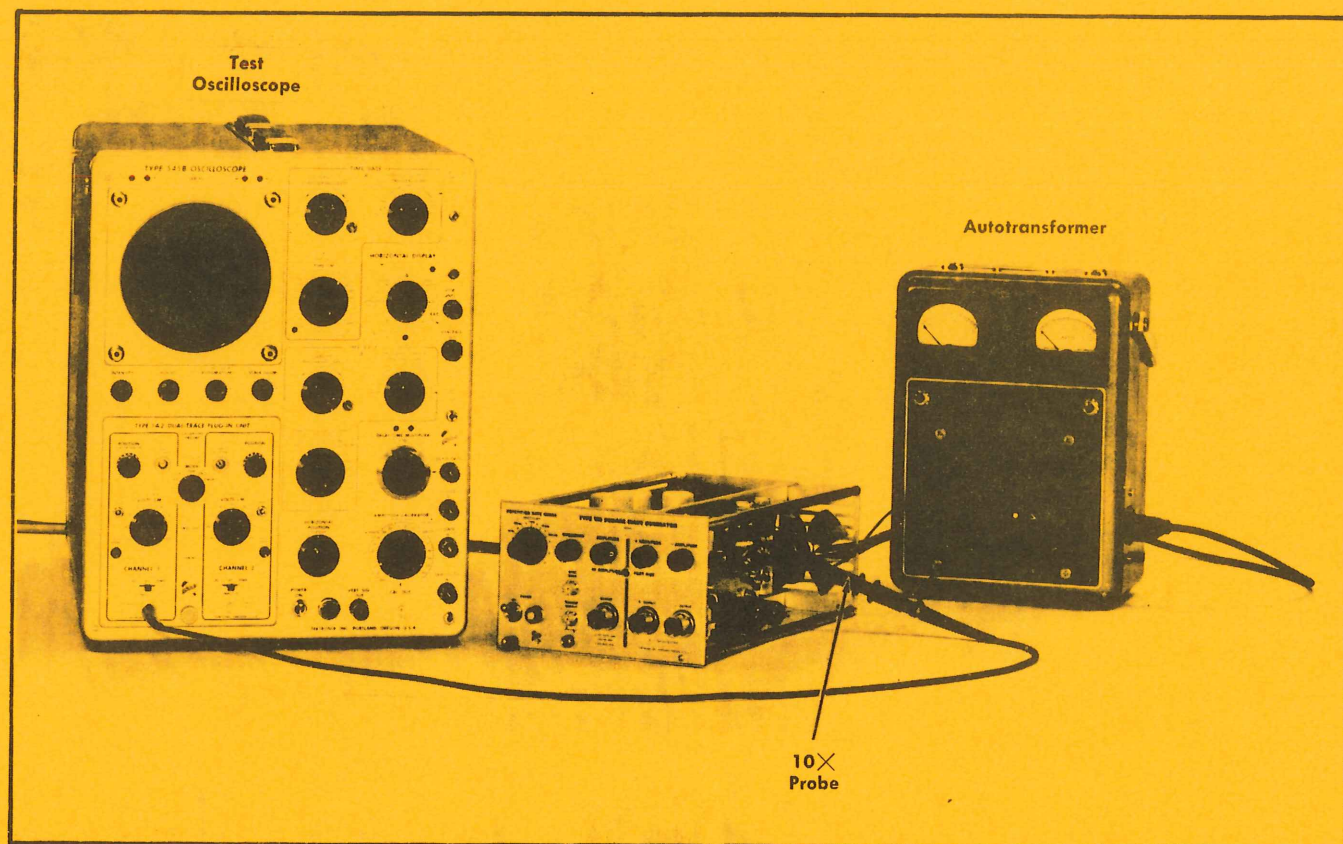

Fig. 6-6. Test equipment setup for step 6.
- Test equipment setup is shown in Fig. 6-6.